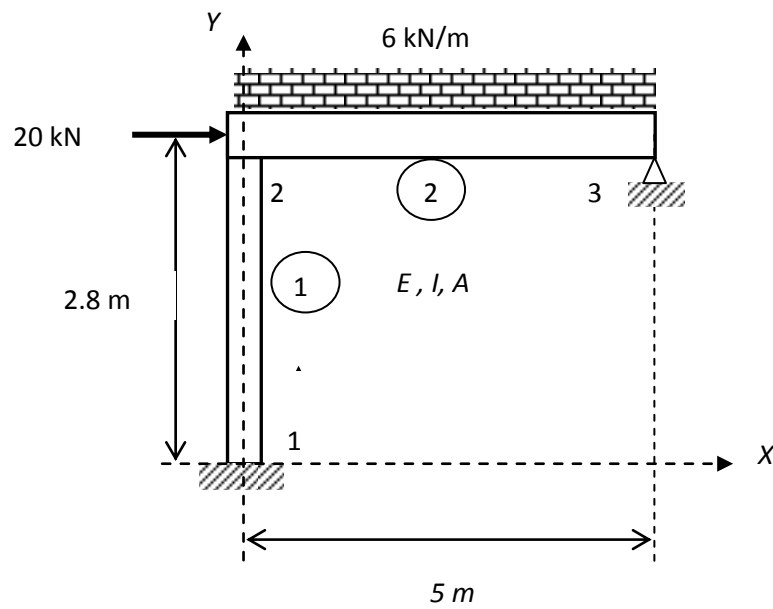

Figure 10c
- (c) Figure 10c shows a frame structure with nodes labeled as 1, 2 and 3. The frame is subjected to a nodal forces of $P = 20$ kN at node 2 and uniformly distributed load of 6 kN/m along member 2-3 . The frame is fixed at node 1 and pinned at 3. Given the value of $E = 207$ GPa, $I = 3 \times 10^{-5} \text{ m}^4$ and $A = 0.005 \text{ m}^2$.